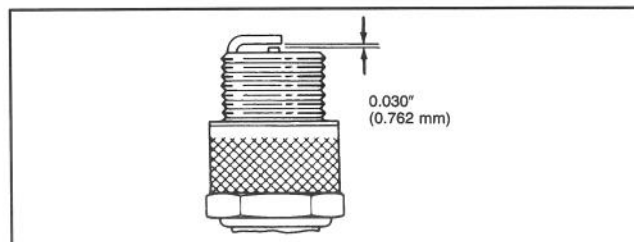

Figure 19
4. Set air gap between center and side electrodes at 0.030 of an inch (0.762 mm) (Fig. 19). Install correctly gapped spark plug w/gasket seal, and tighten plug to 15 ft-lb (20.4 N·m).